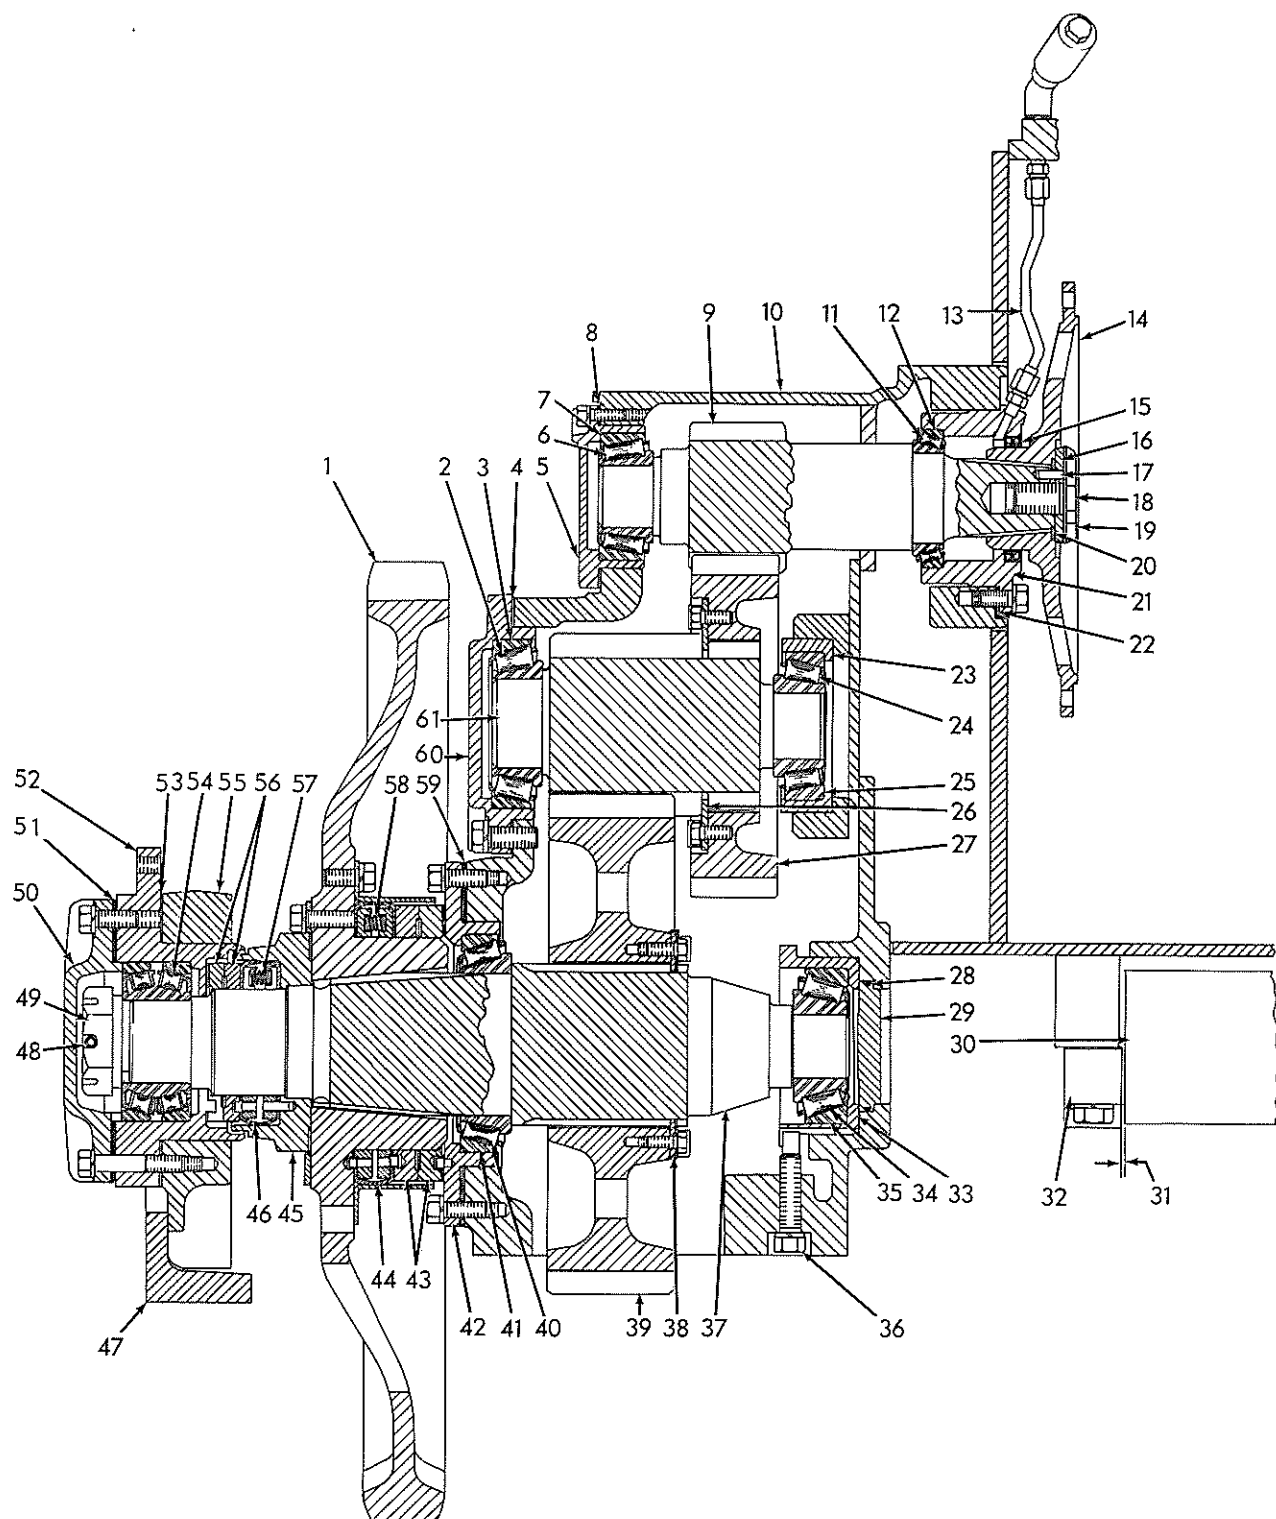

Fig. 1 Final Drive Assembly
LEGEND FOR FIG. 1
5. Remove roll pin, Fig. 1 (48); remove outboard bearing retaining nut (49).
8. Remove final drive compartment cover from steering clutch and final drive housing. Remove gear locks Fig. 1 (38) from sprocket shaft driving gear (39).
10. Use pusher screws and remove sprocket shaft intermediate bearing cage assembly Fig. 1 (42); use care to prevent damage to seal ring ce-